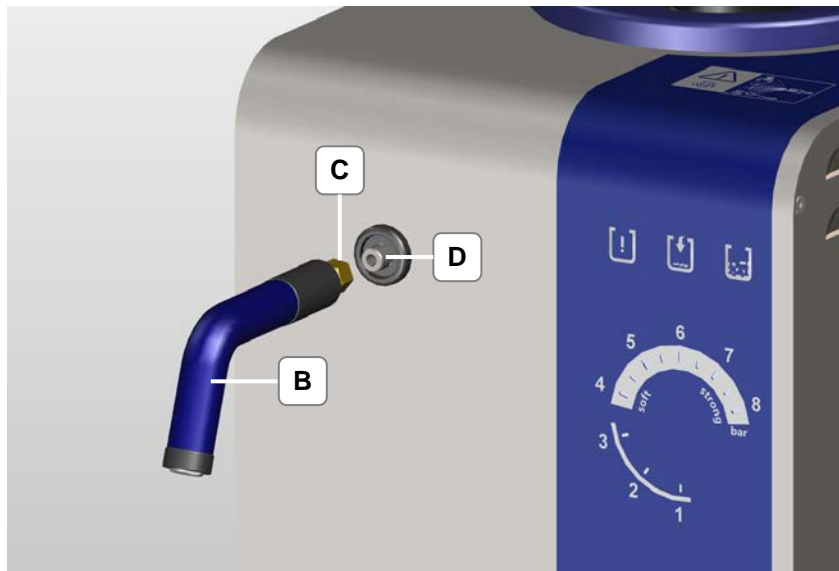

Figure 4.2.2: Screwing on the Fixed Nozzle
2. Screw the fixed nozzle (B) with the nut (C) by hand (hand tight) until it stops on the connecting piece (D) on the device (Figure 4.2.2).